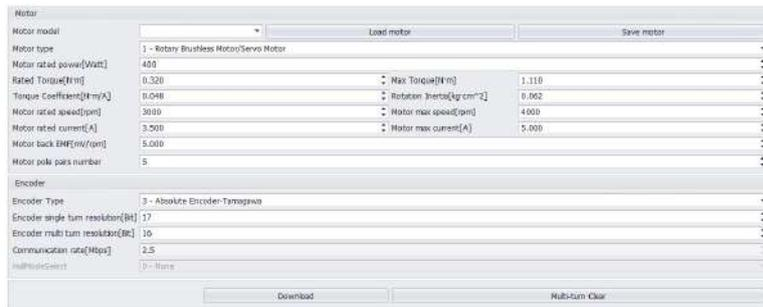

Figure 4-7 Motor parameters II
②According to the motor nameplate and the motor parameters manual provided by the motor manufacturer, fill in the motor parameters to be set into the software motor parameters interface, as shown in Figure 4-7.